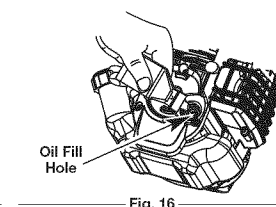

Fig. 16
6. If the oil level is not touching the inner most thread on the oil fill hole, add a small amount of oil to the oil fill hole and recheck (Fig. 16). Repeat this procedure until the oil level reaches the inner most thread on the oil fill hole.